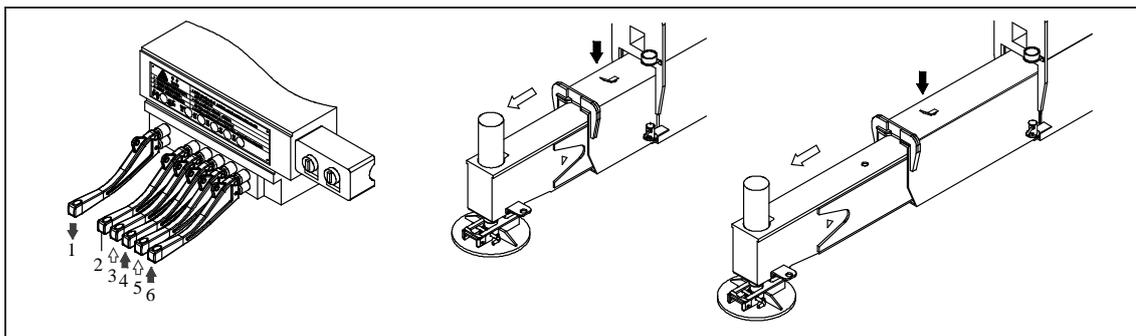

Figure 04 – 17
- c) As illustrated in Figure 04 – 18: